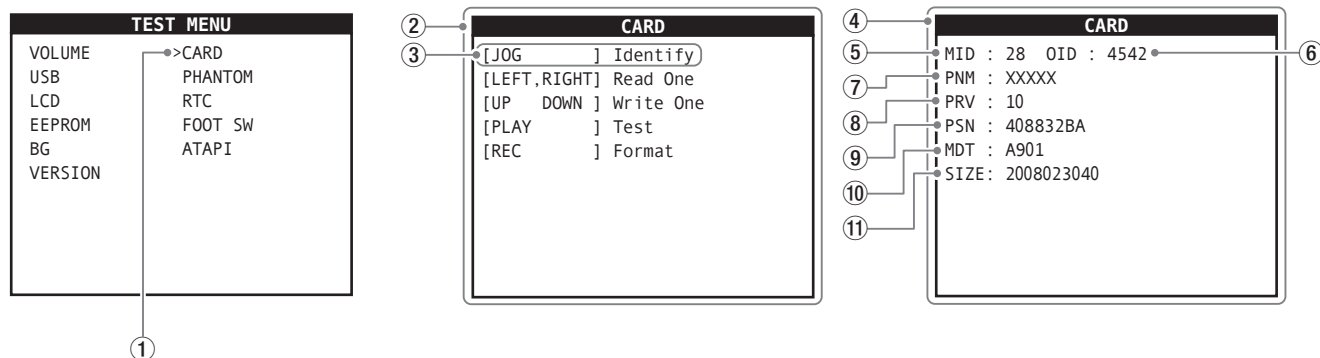

Fig 3
- Use the **JOG/DATA** dial to select the **"CARD"** item (Fig. 3-①). Press the **JOG/PLAY** button to open the **"CARD"** screen (Fig. 3-②).
- On the **"CARD"** screen, press the **JOG/PLAY** button to open **"Identify"** (Fig. 3-③) and show the following information about the card (Fig. 3-④).
Status check of card Display screen :	(Fig3-②)
[ JOG ] Identify :	(Fig3-③)
Confirmation of card information Display screen :	(Fig3-④)
MID :	(Fig3-⑤)
OID :	(Fig3-⑥)
PNM :	(Fig3-⑦)
PRV :	(Fig3-⑧)
PSN :	(Fig3-⑨)
MDT :	(Fig3-⑩)
SIZE :	(Fig3-⑪)